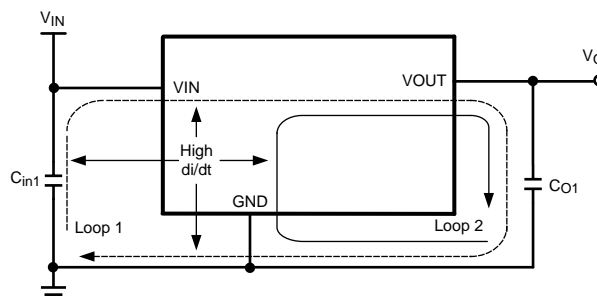

Figure 48.
From an EMI reduction standpoint, it is imperative to minimize the high di/dt paths during PC board layout as shown in Figure 48 above. The high current loops that do not overlap have high di/dt content that will cause observable high frequency noise on the output pin if the input capacitor (C_{IN1}) is placed at a distance away from the LMZ22005. Therefore place C_{IN1} as close as possible to the LMZ22005 VIN and PGND exposed pad. This will minimize the high di/dt area and reduce radiated EMI. Additionally, grounding for both the input and output capacitor should consist of a localized top side plane that connects to the PGND exposed pad (EP).